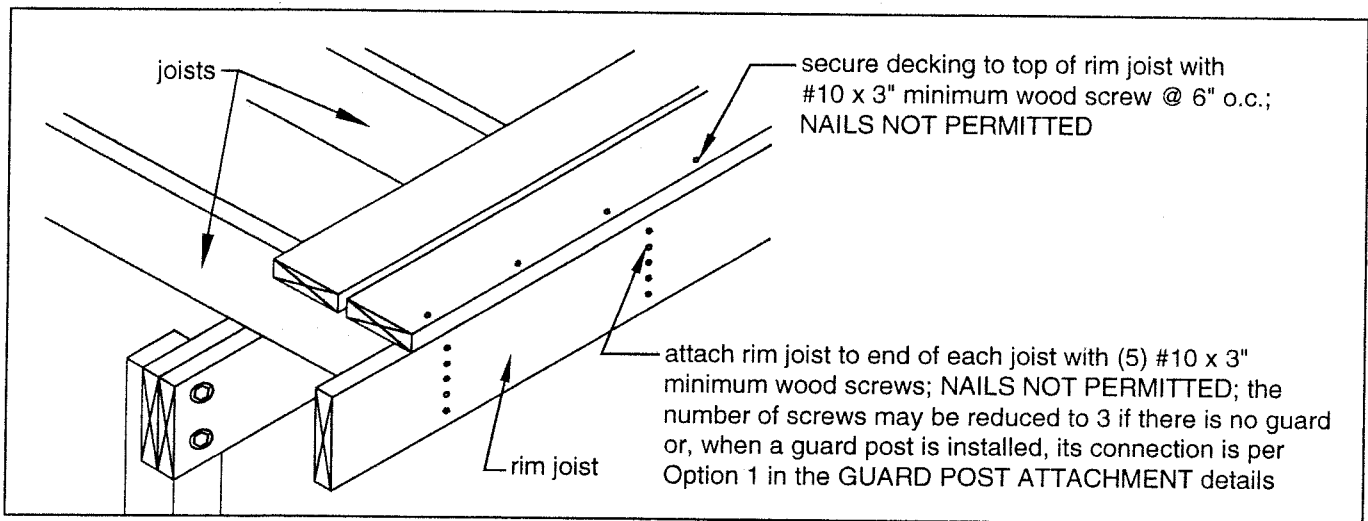

FIGURE 11: RIM JOIST CONNECTION DETAILS
All decking material shall be composed of 2x6 or $\frac{5}{4}$ (five-quarter) board. Attach decking to each joist with a minimum of (2) 8d nails or (2) #8 screws. Space decking with a $\frac{1}{8}$ " gap between each board. See FIGURE 11 for decking connection requirements at the rim joist. Decking may be placed from an angle perpendicular to the joists to an angle of 45 degrees to the joists.
Attach a continuous rim joist to the ends of joists as shown in FIGURE 11. Attach decking to the rim joist as shown in FIGURE 11. For more decking attachment requirements, see **DECKING REQUIREMENTS** on Sheet 6.